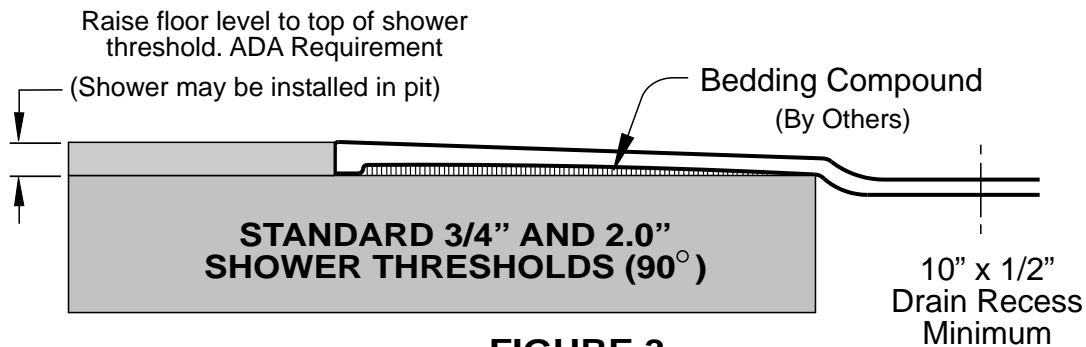

FIGURE 3
The alternate threshold style measures between 3/4 inch up to 2.0 inch 90 degree vertically. To comply with ADA requirements, these showers must be installed so the top of the shower entry is level with the finished flooring. These showers may be installed directly on the sub floor provided the finished floor is built up or a ramp is installed. Showers with threshold heights over one inch are usually installed into a recess or pit built into the sub floor. The depth of the recess should be calculated so the finished floor is level with the top of the threshold. See Figure 3.
6. If the shower you are installing has a threshold like the one shown in Figure 3, the vertical threshold is 3/4" to 2" tall. In most cases, these style units will be installed into a shallow recess or pit. The pit should have been prepared so when the unit is installed the finished room floor will be even with the top of the shower threshold. (ADA Code).